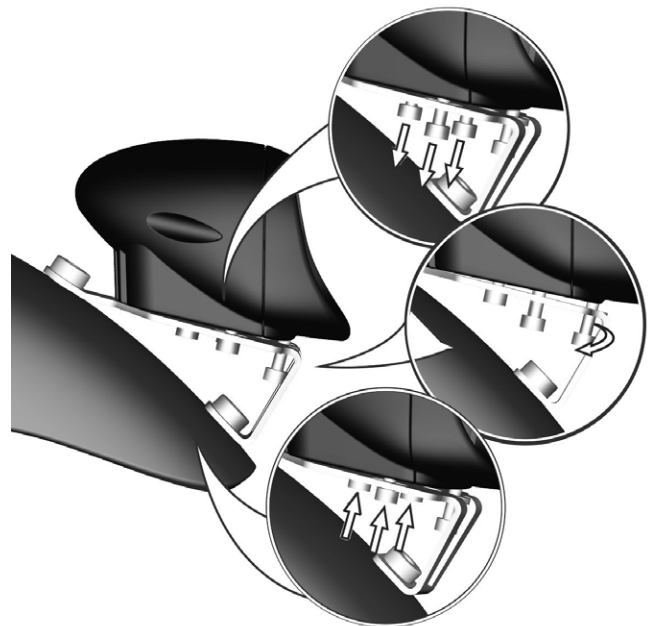

Figure 172. Adjustment of the front lights.
1. Loosen the three attachment screws. See fig. 172.
2. Adjust the angle of the light by turning the adjustment screw clock- or counter clockwise. See fig. 172.
3. Fix into desired angle by tightening the three attachment screws. See fig. 172.